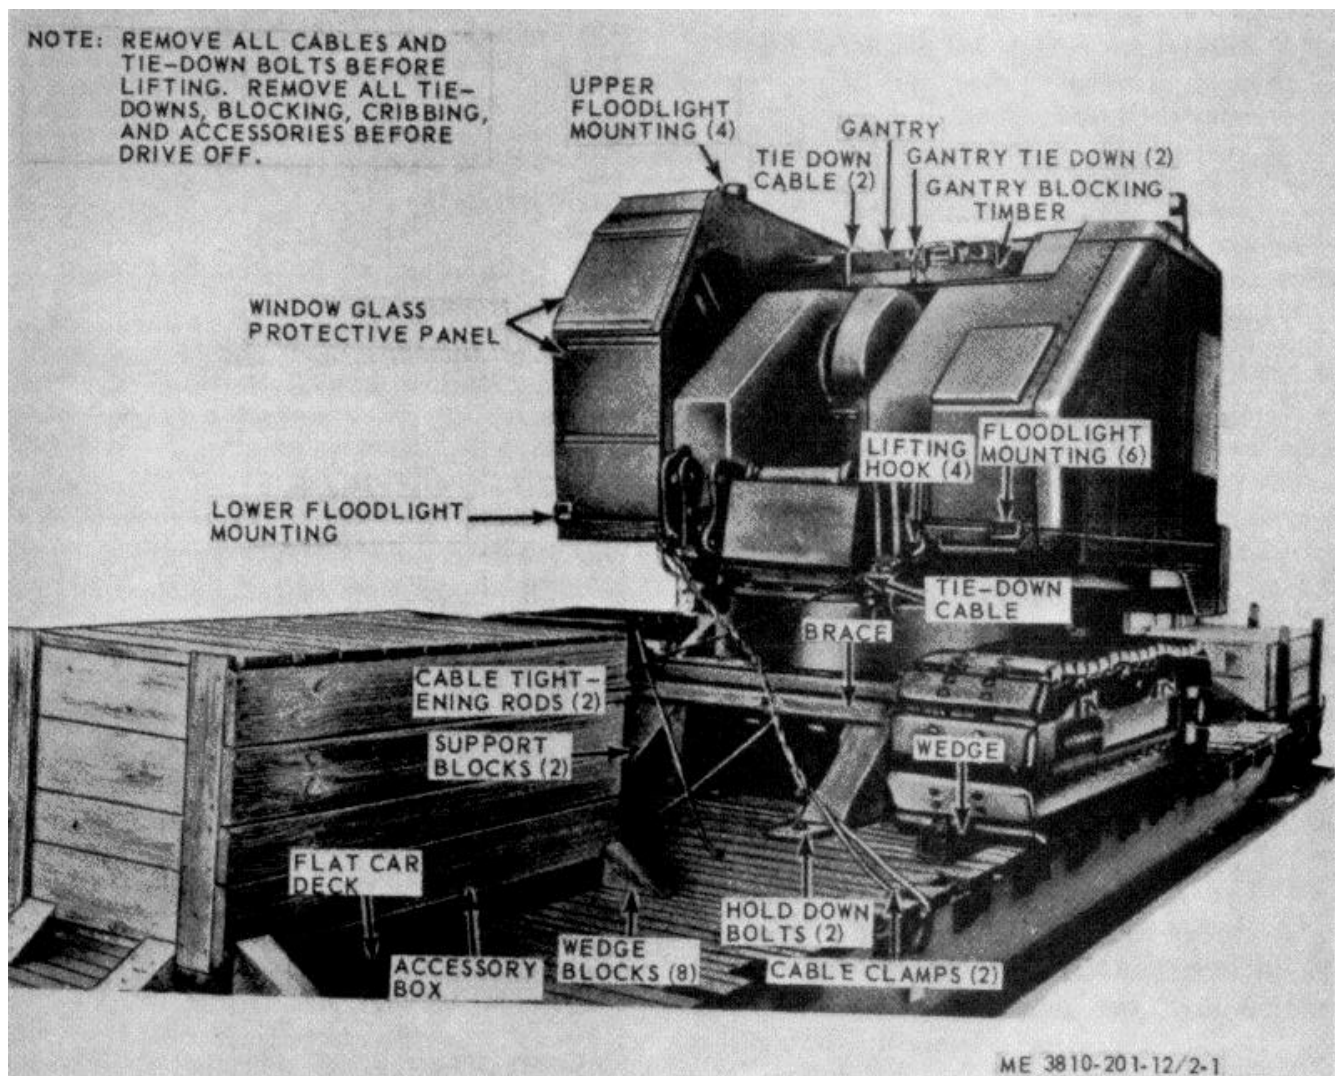

Figure 2-1. Crane-shovel basic unit, and accessories loaded and blocked for shipment, front view.
(1) *Preparation for unloading.* Remove all blocking, hold-down cables, supports, or cribbing, from front end attachments, accessories, or crane-shovel unit (fig. 2-1 thru 2-3).